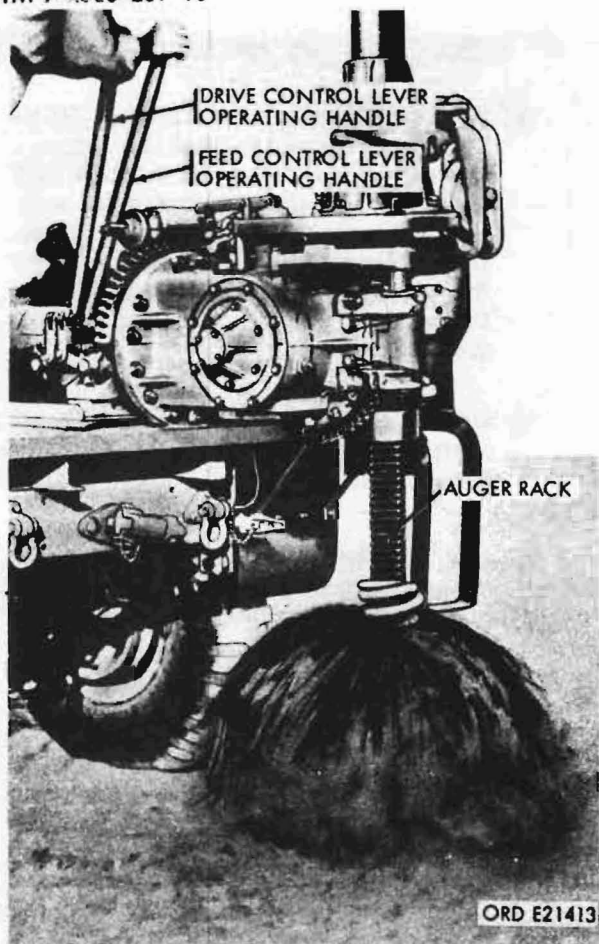

Figure 167. Clearing earth auger of load
- (h) Push on both handles, momentarily, to spin the load off the earth auger (fig. 167).
(6) Preparing boring machine for travel.